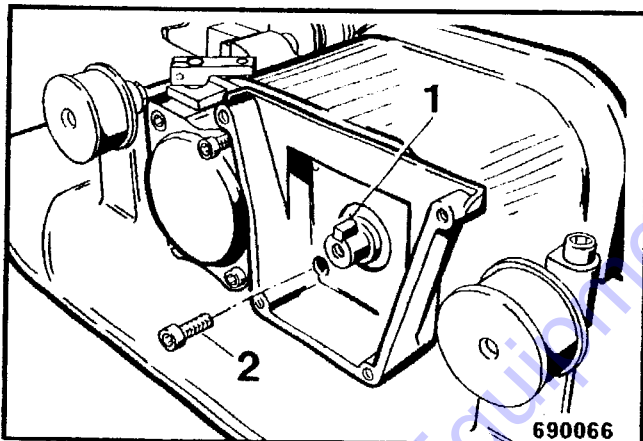

Fig. 8
- Take the fitting key 1 (Fig. 8) off.
- Unscrew the mounting screws (2).